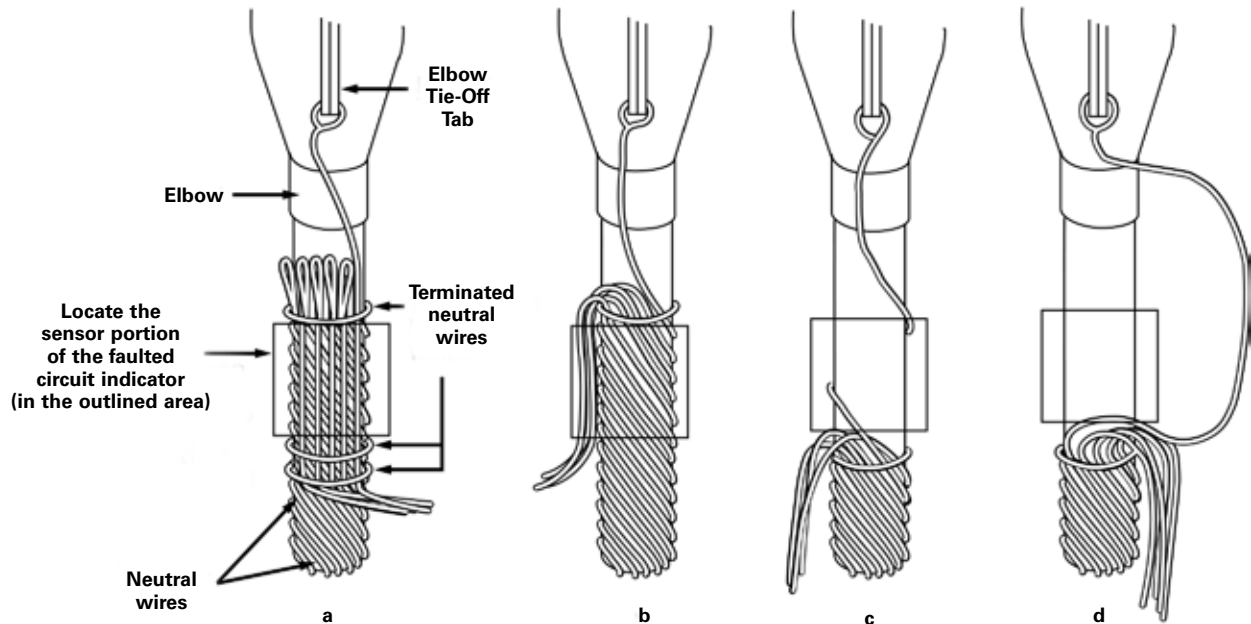

Figure 2. Recommended methods of concentric neutral primary cable preparation
### Method 1 (Refer to figure 2-a)
**Method 2 (Refer to figure 2-b)**
**Method 3 (Refer to figure 2-c)**
**Method 4 (Refer to figure 2-d)**
- 4a. **Apply a thin layer of silicon lubricant to the inside of the closed core CT. Push the fault indicator onto the cable below the elbow at a location shown in Figure 2 while holding the shotgun stick horizontal.**